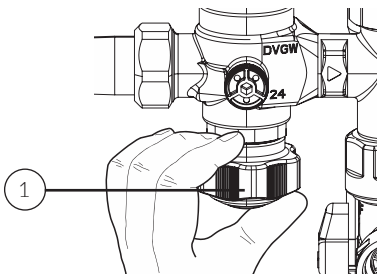
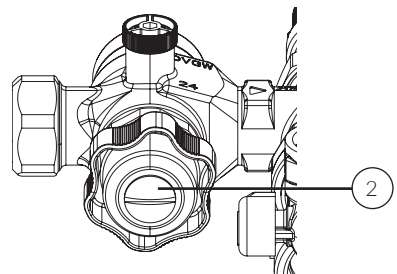

fig. 7
fig. 8
According to DIN 1988, the backflow preventer must be serviced once a year. The backflow preventer is located in the housing above the handle (1). To check the backflow preventer, turn the handle (1) clockwise as far as it will go (direction „CLOSED“) (fig. 7) and then back again 2 turns. Remove the plug (2) from the handle (fig. 8). If water continuously drips out of the opening, the RV must be cleaned or replaced.
Caution: Shut off the valve (turn handle (1) in direction „CLOSED“, see fig. 7) and relieve the pressure before unscrewing the upper part of the safety valve!